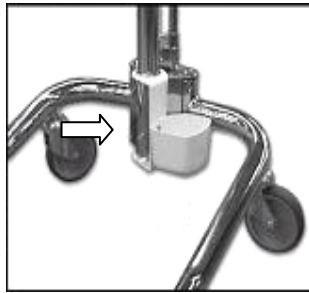

Figure 3: Mast Placement and Screw
STEP 4: (Figure 3) Loosen the 1/4-20 x 1 in Socket Head Cap Screw (14) found on the mast receptacle. Insert Mast (12) into Invacare Lifter Base (1) as shown. The bottom of the Mast is slotted. When properly set, the Mast will drop into place. The Display Unit (3) will face away from the lifter legs and be perpendicular to the Invacare Lifter Base. Tighten Socket Head Cap Screw to secure.